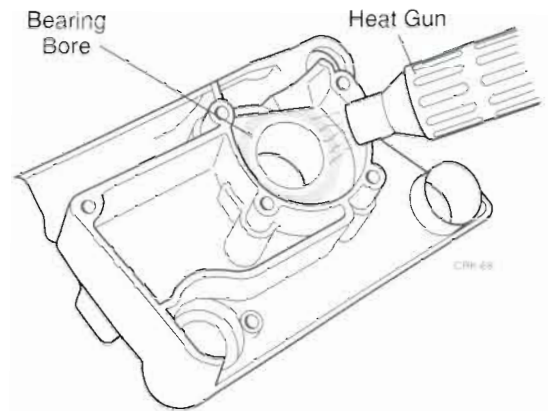

Figure 8.20 Expanding the Bearing Bore
- Bearing installation is easiest if the crankcase bearing bore is first expanded slightly by heating to not more than 210°F. (Figure 8.20).